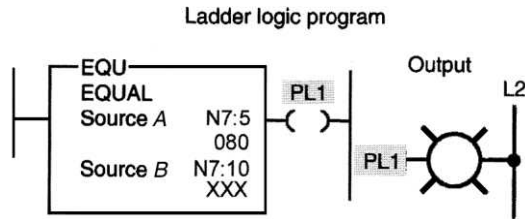

Figure 10-7 Logic rung for question 14.
14. Output PL1, of the logic rung shown in Figure 10-7, will be true when 14._____ the value of the number stored in word N7:10 is